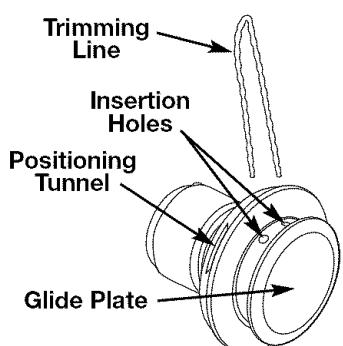

Fig. 10
3. Reinstall line glide plate (Fig. 10).
4. Insert both ends of your line through the insertion holes in the side of the cutting head (Fig. 10).